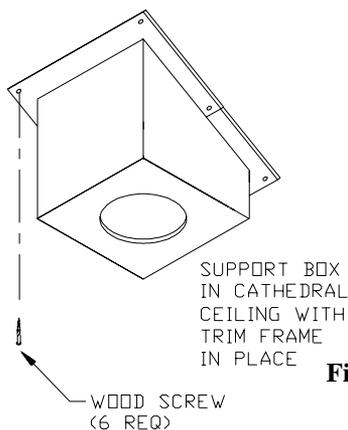

Fig 6
3. Install Support: Slip the **Support Box**, (Figure 5), into the framed opening. It must extend at least 2 inches below the finished ceiling. Level the **Square Support Box** and nail it to the framing using at least two 8-penny nails per side. The two **Trim Frames** are positioned as shown, and screwed through the ceiling and into the framing members with (6) 1-1/4 inch long round-head wood screws. (Figure 6). The bottom of the **Round Support** must also be at least 2 inches below the finished ceiling. Trim for the **Support Boxes** is “U-shaped”. The trim pieces are adjusted to accommodate the **Square Support Box**, and screwed into the framing, using
wood screws. A completed **Square Support Box** installed in a cathedral ceiling with the “U-shaped” trim is also shown in Figure 6. Trim kits are available in brass, antique brass, and chrome, to enhance the appearance of the various **Support Boxes** and **Trim Frames**. Where the chimney passes through additional floors and ceilings, install **Firestop Radiation Shields**. Where the chimney passes through an attic, **Firestop Radiation Shields** and **Insulation Shields** must be installed.